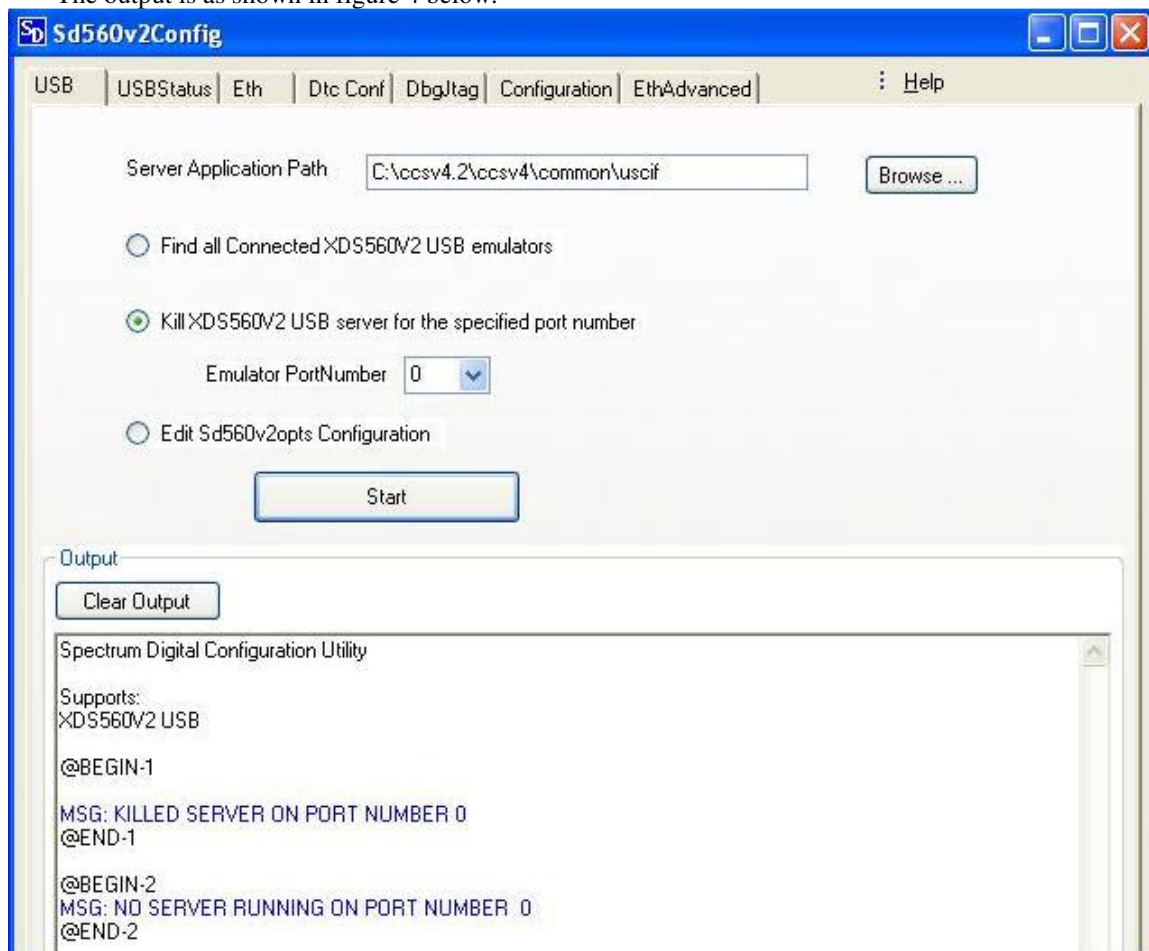

FIGURE 4: Sd560v2Config utility to kill the USB server.
- The output is as shown in figure 4 below.